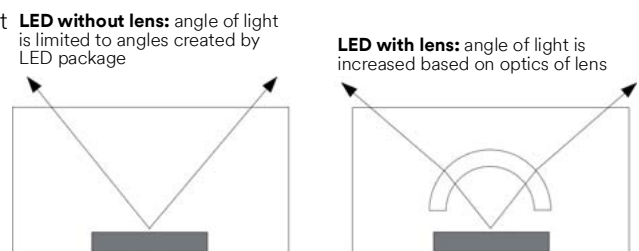

Figure 9. LED Modules
- with or without a lens (See Figure 9);